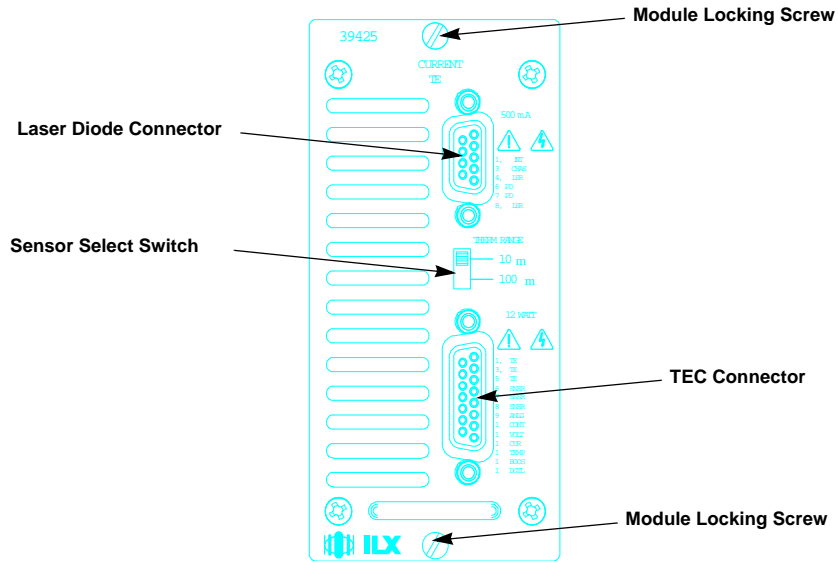

Figure 2.1 LCM-39440 Back Panel
- 2 Place the LCM-39440 module into an open bay on the back of the LDC-3900 and slide the module into place. There are tracks at the top and bottom of the bay which guide the module into place. Push the module into place until the board edge clicks into place with an audible "pop." This indicates that the module is "locked" into place. Fasten module to the mainframe with the Module Locking Screws (see Figure 2.1) to secure the module. It is then ready to be used in the LDC-3900.
- 2 Unfasten the Module Locking Screws (see Figure 2.1) on the LCM-39440 module back panel.
Refer to Figure 2.1 for the following discussion of connections to the LCM-39440.